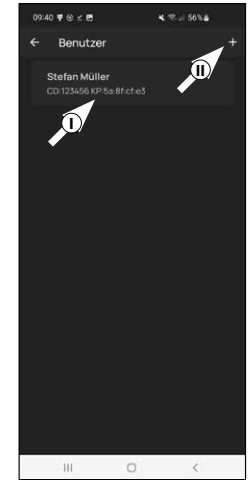

Fig. 2
- ! **Note:** Alternatively, a new additional user profile can be created at this point. To do so, tap the "+" in the top right-hand corner (II) (Fig. 2).